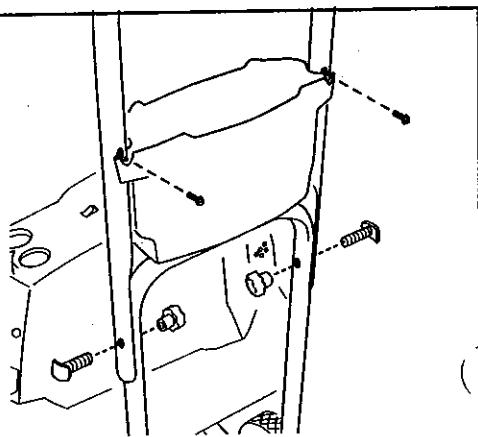

Fig 4
3. Attach the handle assembly to the frame with the T-bolts from the outside of the handle and the knobs on the inside. Fasten the storage bucket to the handle assembly. (Fig. 4)